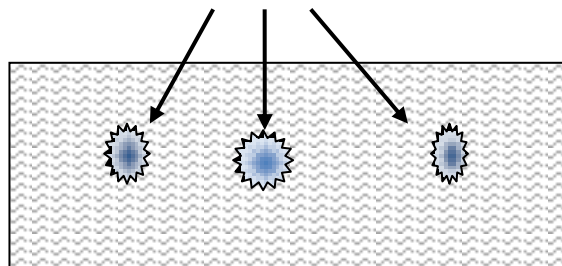

Figure 1: Standard twist drill should not be used to drill holes in sheet metal.
Drilling holes in sheet metal is difficult, and the results may be damaged work. This is especially true with standard twist drills over 12.7 mm (½ in) in diameter. The standard twist drill has a tendency to "hook" into the thin metal. This "hooking" action is caused by the rake angle created by the helix of the flutes and the drill point. A clean, round hole is not produced by the standard twist drill (See Figure 1).
2. By referring to Figure 1, you can understand how “the rake angle created by the helix of the flutes and the drill point” creates the “hooking” action.
Passage 2 is an evaluation of a drilling operation and a problem. The passage describes the problem, looks at the cause, directs you to Figure 1 to show it to you and offers a solution.